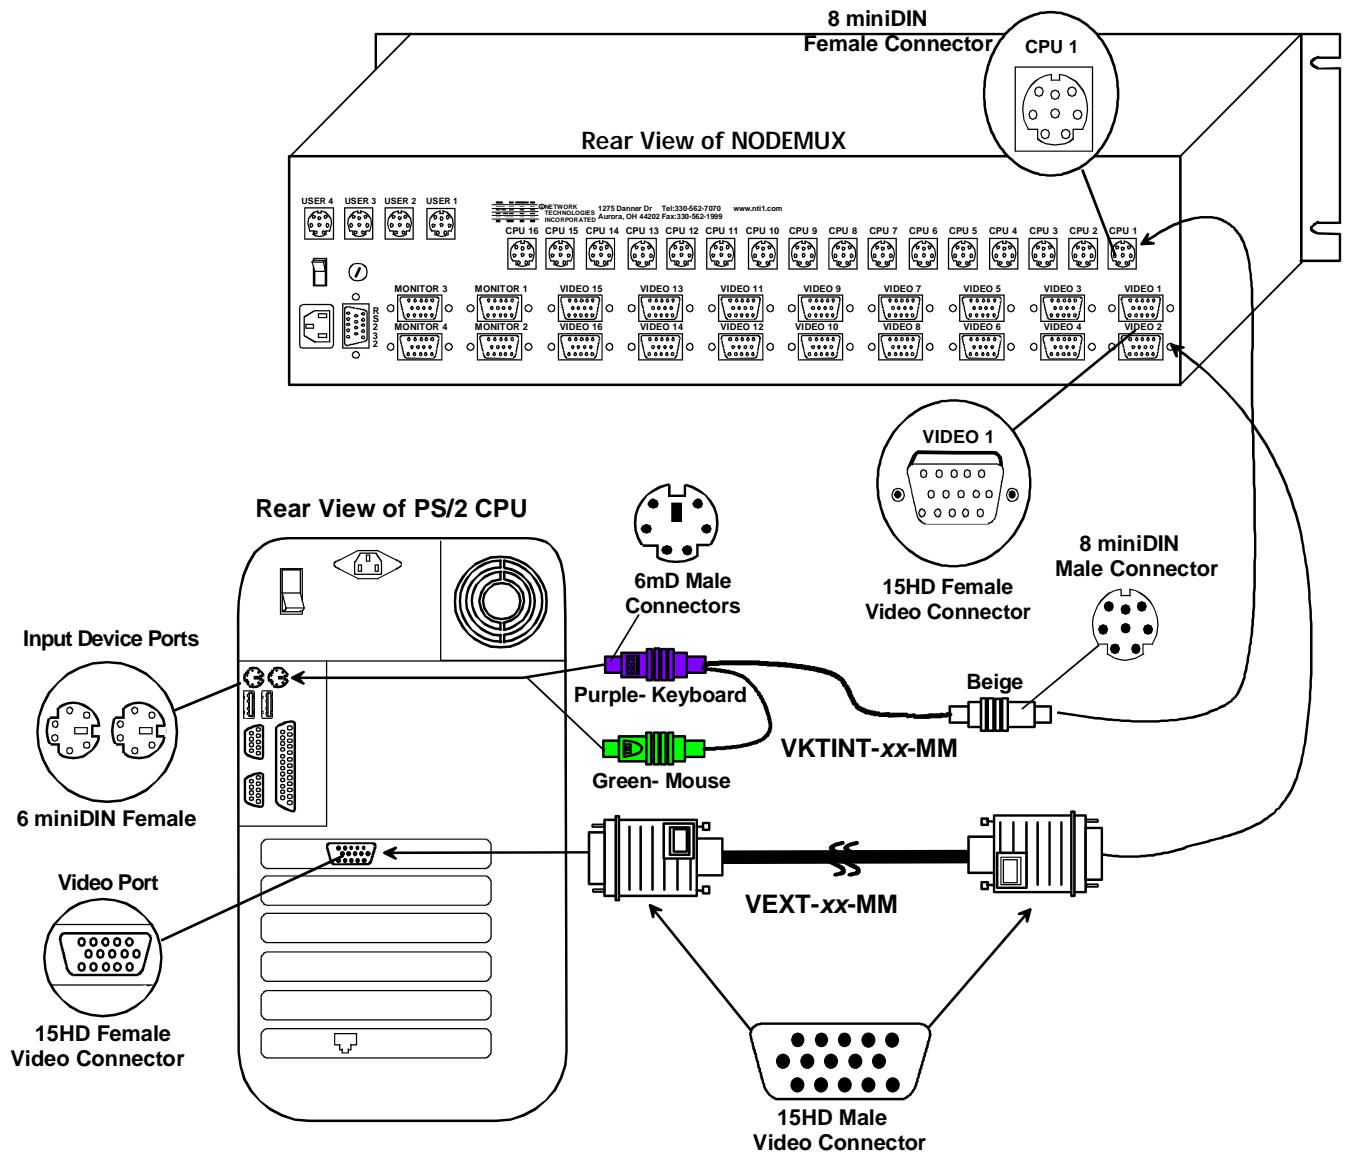

Figure 4- Connect PS/2 CPU to NODEMUX
- For each CPU:** Connect a cable from the Keyboard port of the CPU to a port labeled "CPU x" on the NODEMUX. (See Figure 4 on page 9 and Cable Selection Guide on page 10.) **Note the port's number.**